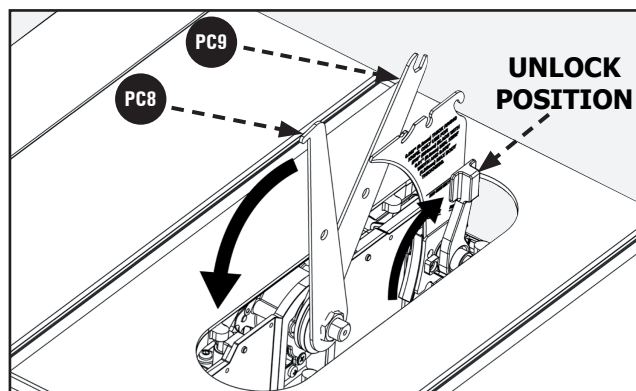

FIGURE 7
2. Ensure Riving Knife Lock Lever is in unlock position. See Figure 7.
5. Holding the Spindle Shaft in place, loosen and remove the Arbor Nut and Outer Blade Washer. See Figure 7.